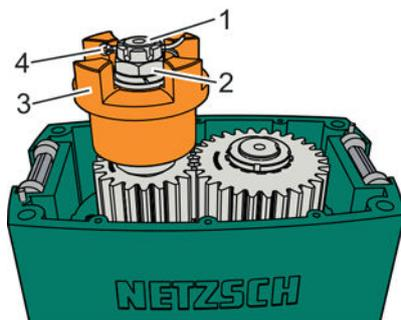

Fig. 144: Inserting the safety splint of the hexagon castle nut
29. ▶ Slide the safety splint (Fig. 144/4) of the hexagon castle nut (Fig. 144/2) into the borehole of the drive shaft (Fig. 144/1) and then bend open the ends.